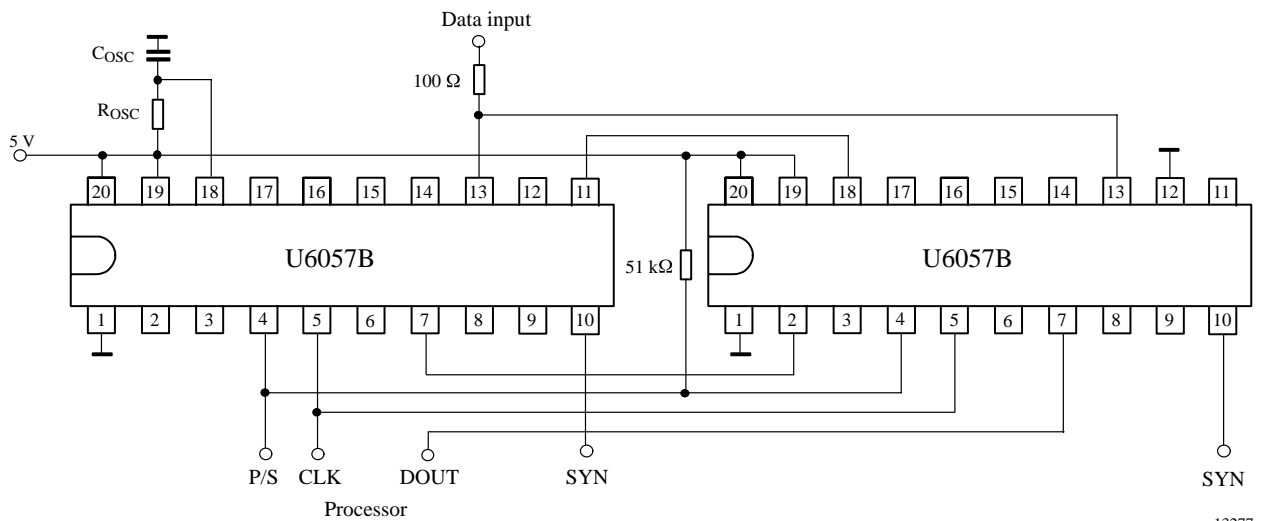

Figure 6. Master – slave operation, read-out: 1×16 bit, supplied with stabilized 5 V
- CLK and P/S are always connected in parallel. DOUT_{MASTER} and DOUT_{SLAVE} are connected with each other. The 16-bit data word can be read-out serially via DOUT_{SLAVE} in one operation (see figure 6)